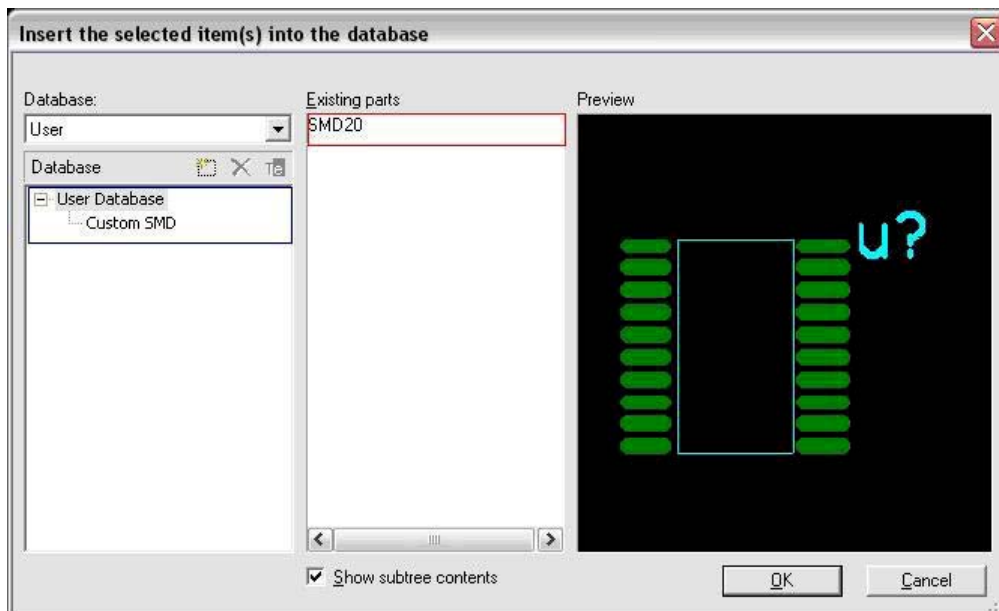

Figure 25 - Save Dialog Box
b.) In the database section select the **Custom SMD** group created in step 1 (Blue box in Figure 25).